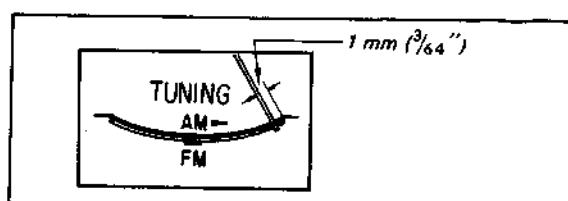
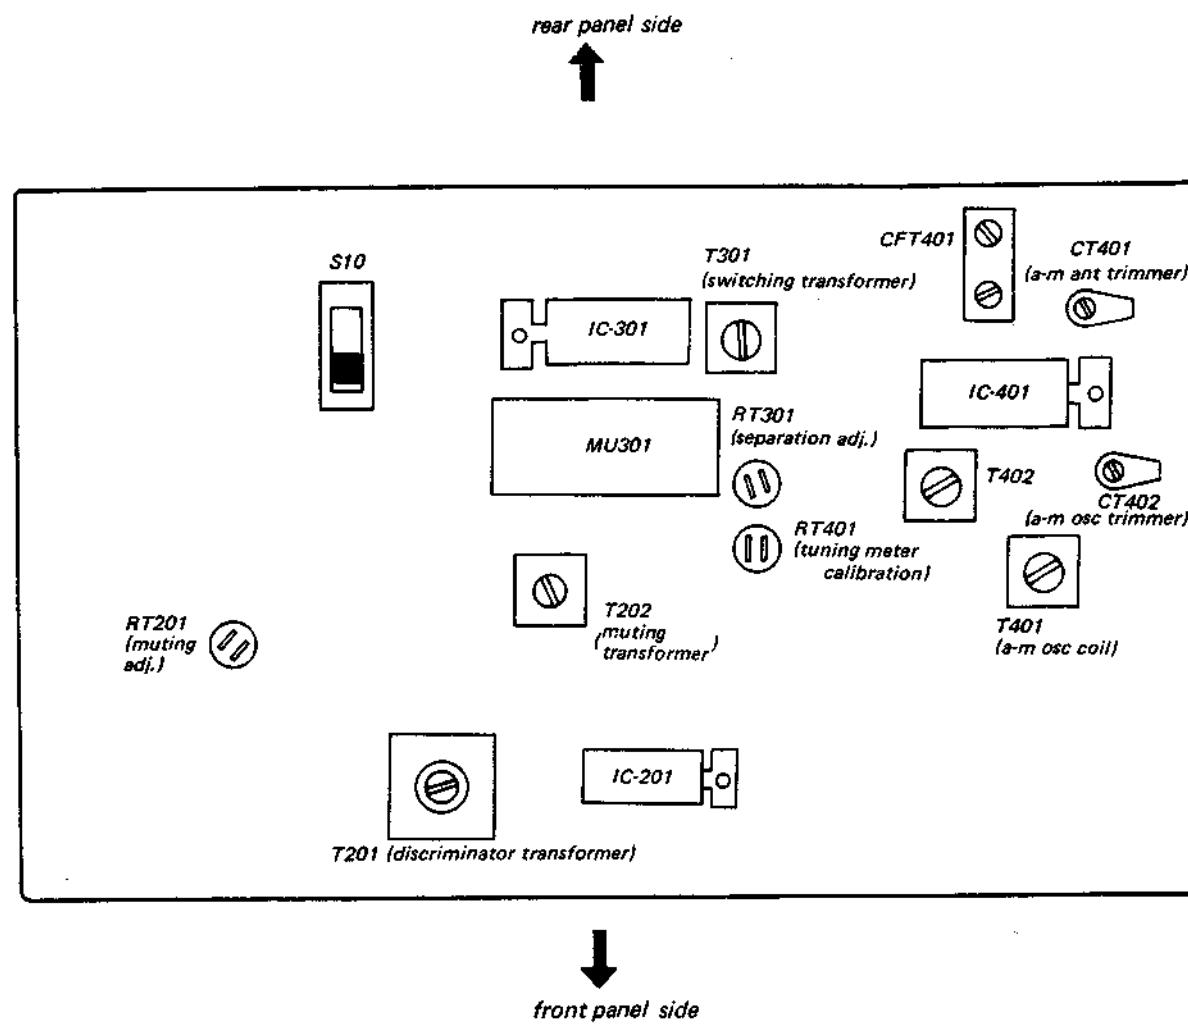

Fig. 3-9. TUNING meter calibration
Fig. 3-10. Adjustment parts location
1. Precisely tune the receiver to the carrier frequency of stereo signal generator, then turn the top core of switching transformer T301 (See Fig. 3-10) to obtain maximum output at the left channel. Note that this adjustment has a close relationship with stereo distortion.
4. The output-level to residual-level ratio represents the separation. Adjust separation adj. control RT301 (See Fig. 3-10) for minimum residual level. Check the right channel for separation. Usually, about an 8 to 9 dB difference in channel separation exists. Readjust RT301 for minimum difference between left- and right-channel separation. While doing this, remember that the output level also changes according to the setting of RT301.
1. Turn RT201 (See Fig. 3-10) fully clockwise.
(See Fig. 3-10) for proper muting operation. Muting should begin at point equidistant from zero center.
Precisely tune the receiver to the signal and adjust RT401 (See Fig. 3-10) to obtain the meter pointer within 1 mm ( $\frac{3}{64}$ ") left of its maximum indication as shown in Fig. 3-9.